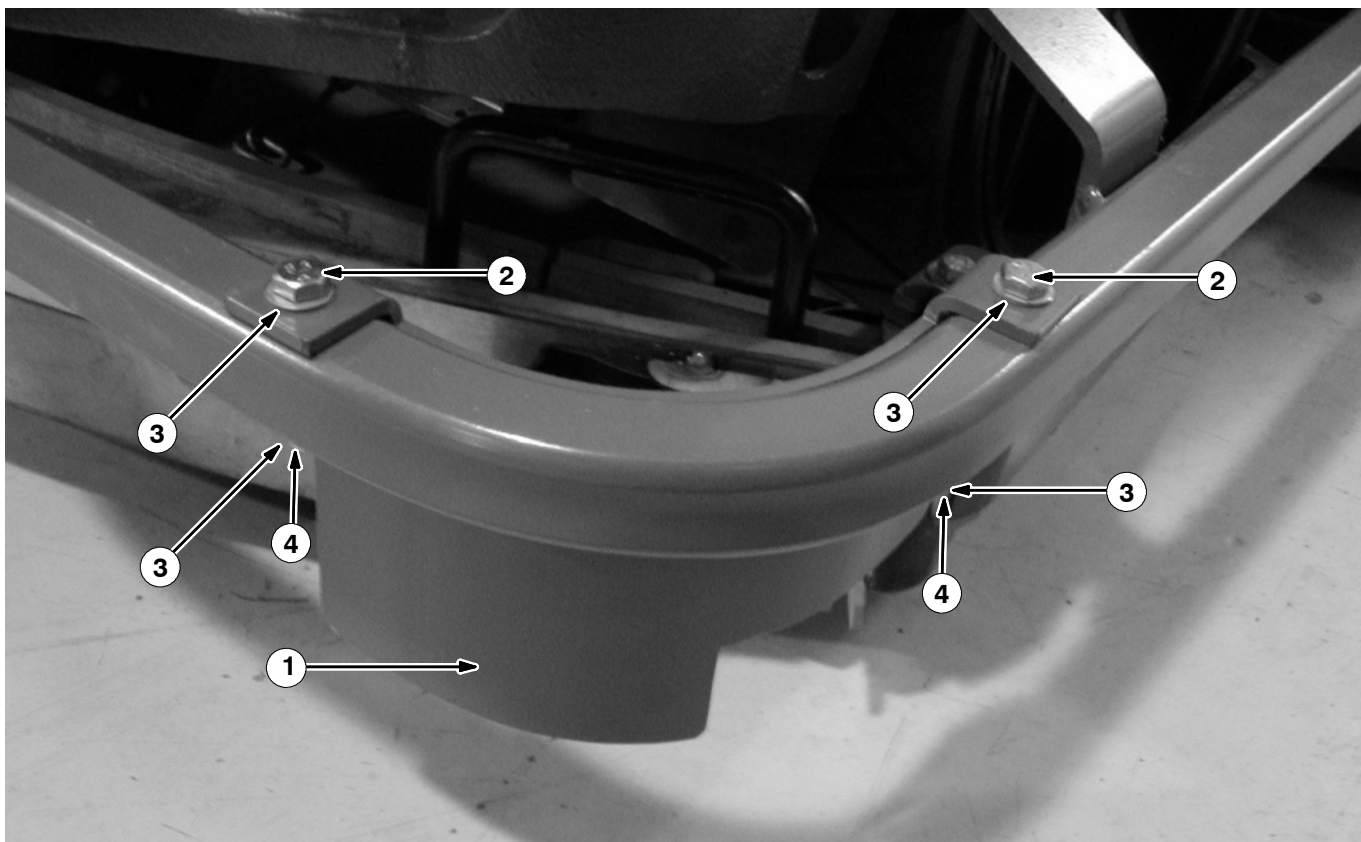

FIG. 1 - Bumper Guard Installation
1. Position the new bumper guard (1) on the right rear corner of the guard bar. (Refer to FIG. 1)
3. Mount the bumper guard (1) with two hex screws (2), flat washers (3), and lock nuts (4). (Refer to FIG. 1)